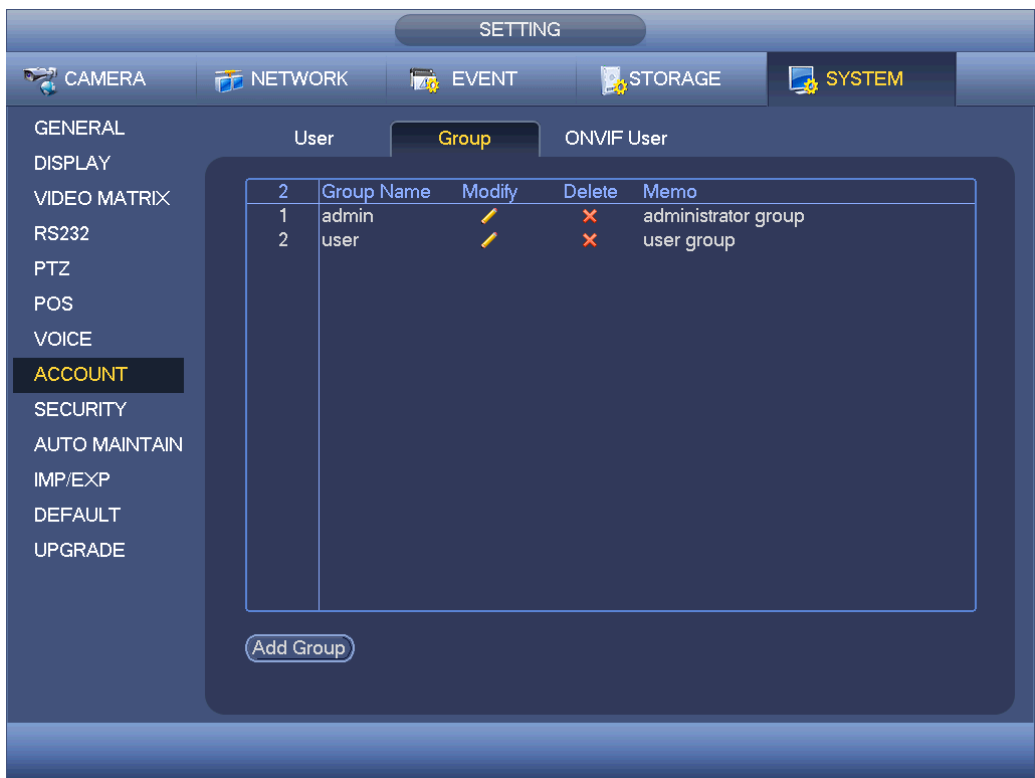

Figure 4-210
Enter add group interface. See Figure 4-210.
- Step 2 Click add group button in Figure 4-210.